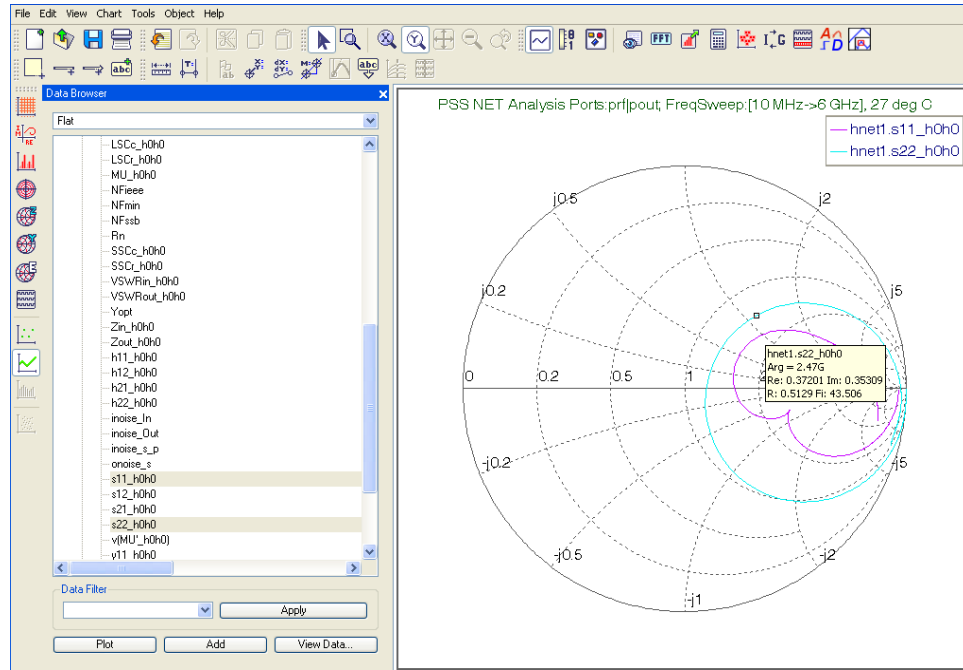

Figure 11: Smith Chart for S11 and S22
3.4: Press  on the left-side of SmartView window, choose S11_h0h0 and S22_h0h0, and click **Plot** to draw its on the E-Smith chart (see Figure 11).